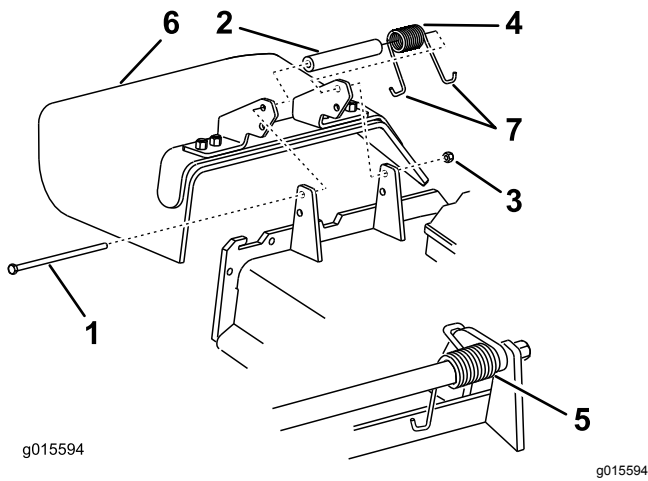

Figure 126
1. Remove the locknut, bolt, spring, and spacer holding the deflector to the pivot brackets (Figure 126).
2. Remove the damaged or worn grass deflector (Figure 126).
Note: Make sure that 1 J-hook end of the spring is installed behind the deck edge before installing the bolt as shown in Figure 126.
- Place 1 J-hook end of the spring around the grass deflector (Figure 126).